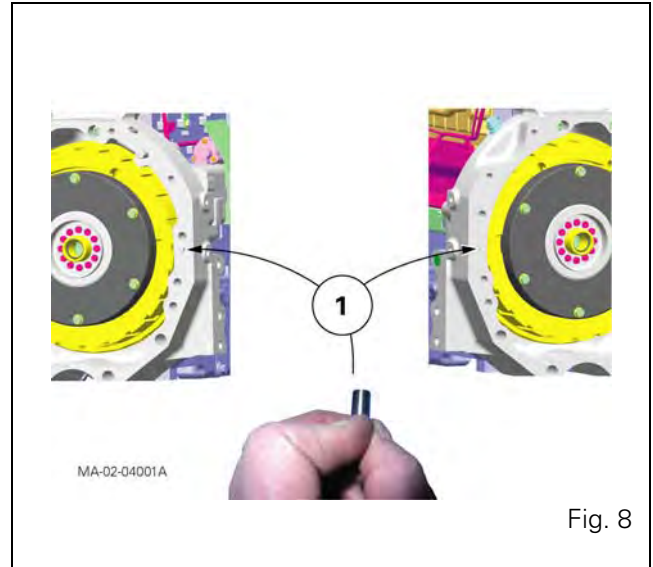

Fig. 8
- the presence of locating pins (1) on the engine (Fig. 8),